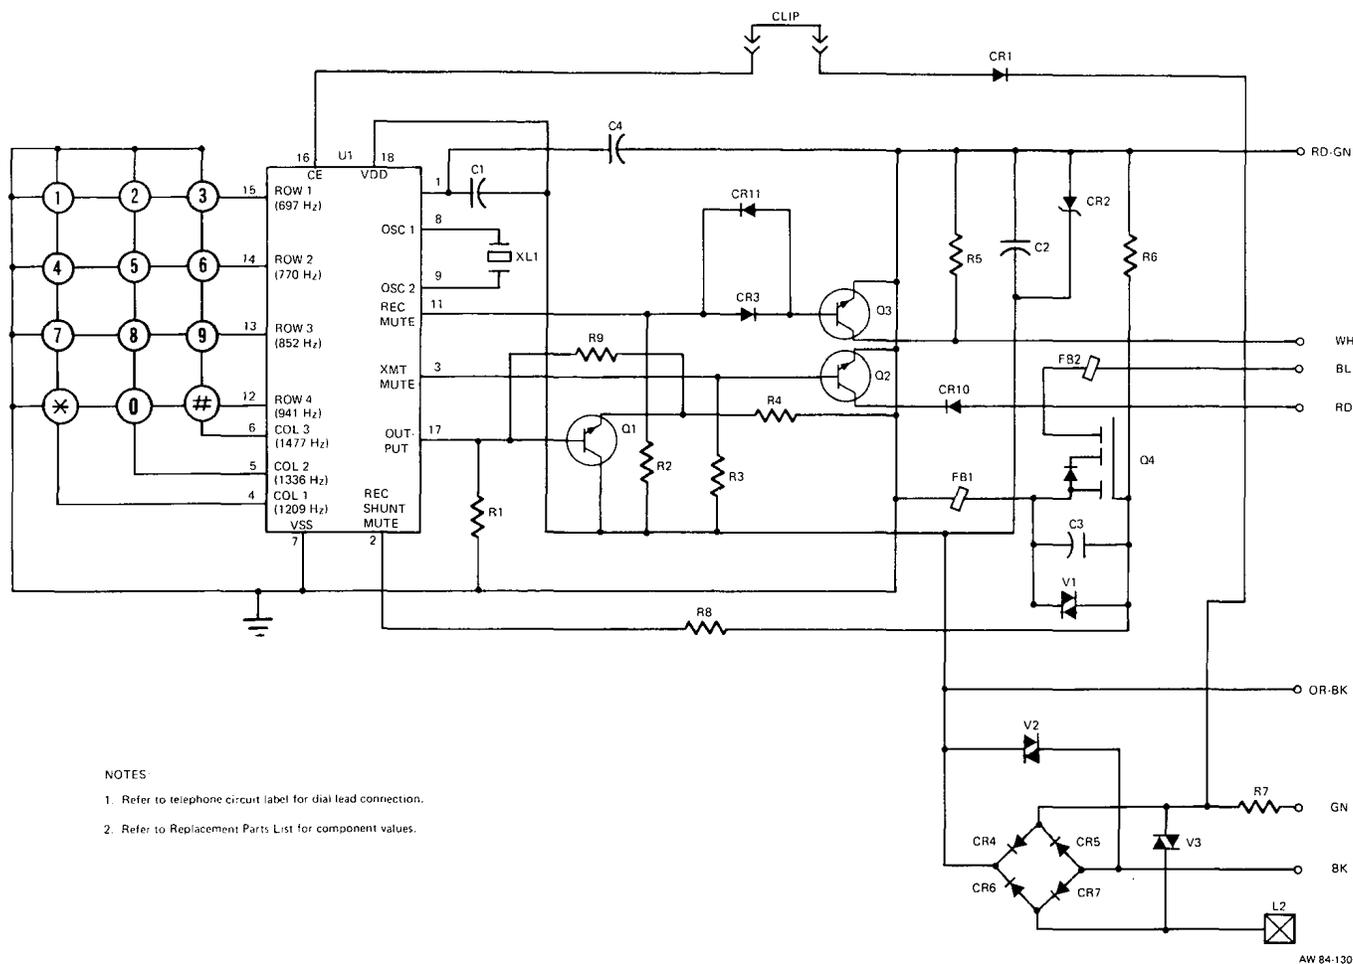

Figure 3: Model 42 Pushbutton Dial, Schematic
**2.04** The tone-generating PCB consists of a DTMF generator integrated circuit (IC), a crystal oscillator, and various other solid-state components. The crystal oscillator provides a constant reference for the tone generator IC that generates eight digitally-synthesized tones. The other solid-state components, along with the IC, provide handset receiver and transmitter muting, and polarity guard. (See Figure 3.)